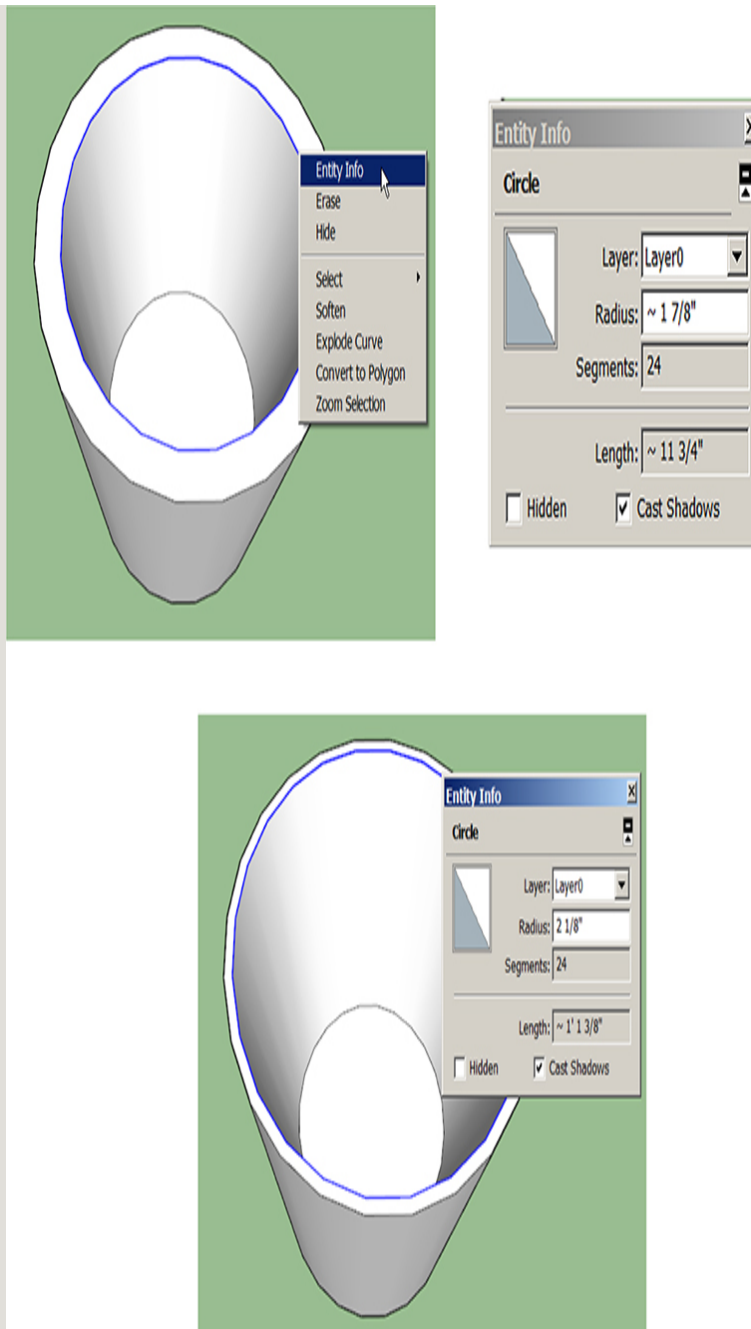

Figure 3-79 Change the inner circle's radius via its Entity Info box.
3. Adjust the thickness (Figure 3-79). The mug looks a bit too thick, doesn't it? Highlight the inner circle, right-click, and choose Entity Info. This brings up a box with information about the selected geometry. Different options appear based on what's selected. Here we can overwrite the existing radius with a new one. Type **2 1/8** and the mug's interior will adjust.